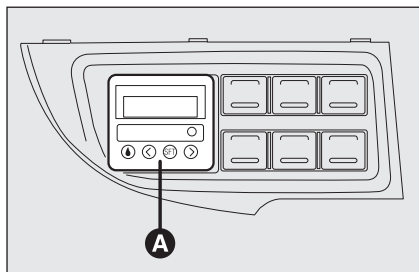

fig. 54
- ☐ digital timer **A**-fig. 54 to start the heater manually or to program starting time.